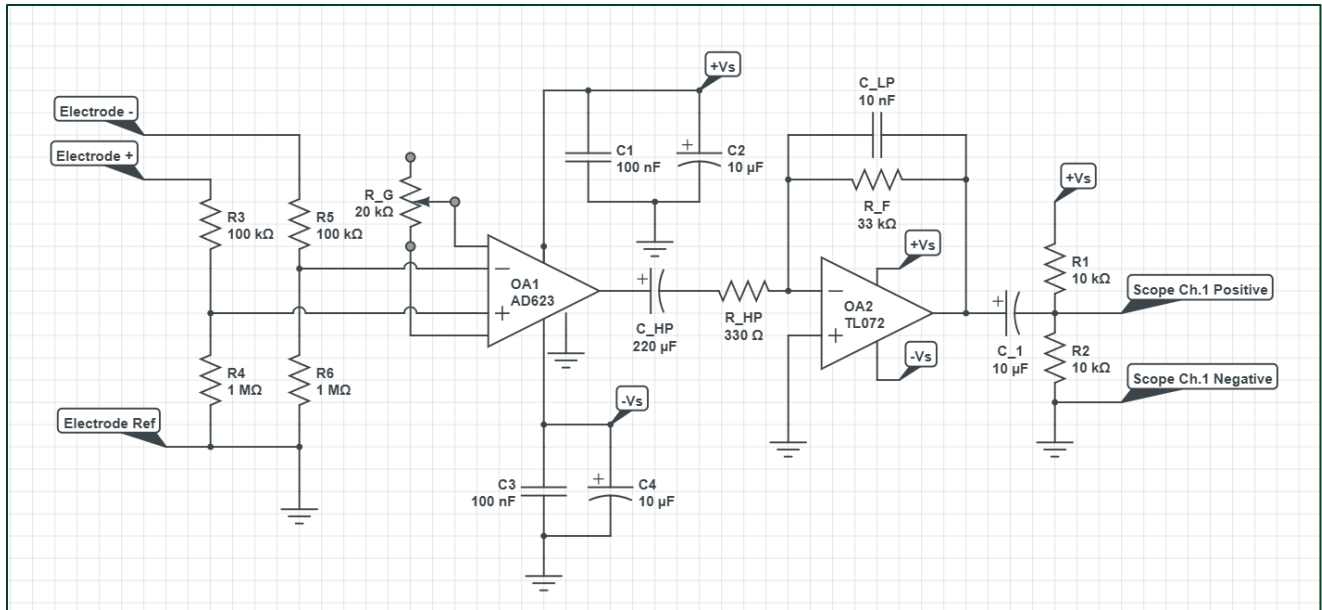

Figure 4. EMG Signal Amplification and Band-Pass Filtering Circuit for Device
12. Connect the **20 k Ω potentiometer (R_G)** between **AD623 Pin 1** and **Pin 8**. Use the potentiometer wiper and one outer terminal as the variable resistance, as shown in **Figure 4**.
25. Connect **TL072 Pin 1 (1OUT)** to the positive terminal of the **10 μ F output coupling capacitor (C_1)**, as shown in **Figure 4**.
⁵ Given on Figure 4.
Important! The TL072 contains two operational amplifiers. Figure 4 uses the first amplifier section (Pins 1, 2, and 3). Refer to the TL072 datasheet for the pin configuration.